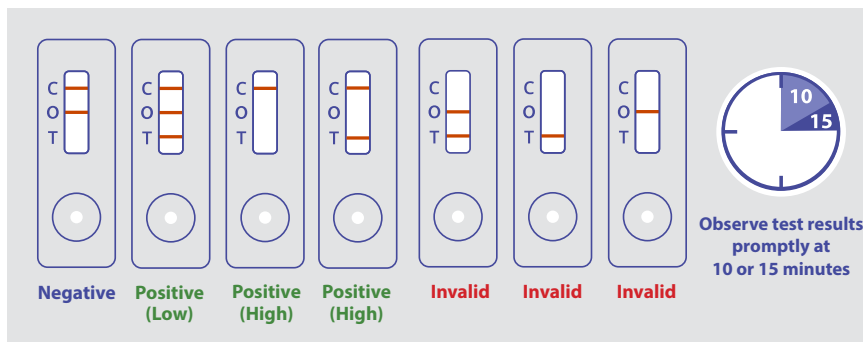

Figure 3. Interpreting Test Outcomes
9.1. A negative result is indicated by the development of a strong control line (C) and overload (O) line. An example of a negative result is depicted in **Figure 3** labeled **“Negative”**.
9.2. Positive test results at lower analyte concentrations will result in the appearance of the test line (T) in addition to the overload line (O) and/or the control line (C). At higher analyte concentrations, the test line (T) and/or the overload line (O) will disappear, leaving only the appearance of the control line (C). Thus at high analyte concentrations, the disappearance of the overload line (O) indicates that the sample is positive for the analyte regardless of the appearance of the test line (T). Examples of positive results are depicted in **Figure 3** labeled **“Positive”**.